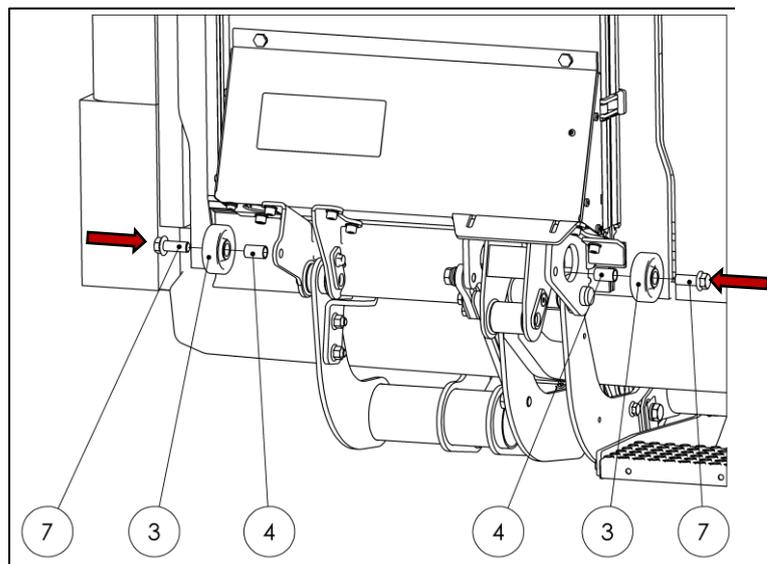

Fig. 66
- Remove the flange screws (7), bushings (4), and ground rollers (3) from the accessories kit (see Fig. 66).